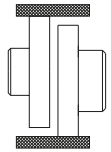

Figure 5c. Parallel displacement mistake on the horizontal plane and its correction
- In order to control the parallelism mistake, a gauge with straight edge is pressed on a part of the coupling in parallel to the axis and the position of the gauge related to other part is observed. The gauge should contact with both two parts simultaneously and along its entire edge. This process should be performed at two opposite places on the horizontal and vertical plane (Figure 5c, 5d).